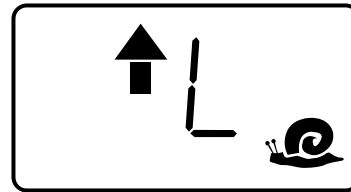

Fig 8.
When the JCB Selectronic range change is in neutral (N) the centre display of the instrument cluster ⇒ Indicators \(□ D-9\) indicates as shown ⇒ Fig 8. \(□ D-11\).